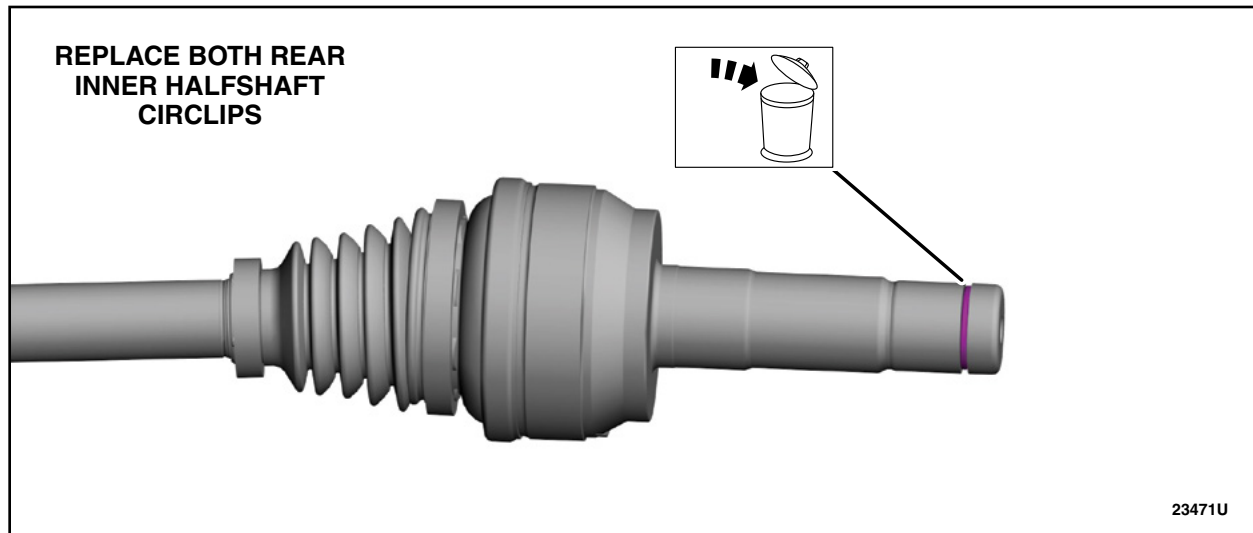

FIGURE 20
27. Remove and discard both rear inner halfshaft circlips. Then, install new circlips onto both rear inner halfshafts. See Figure 20. Then, proceed to the next Step.